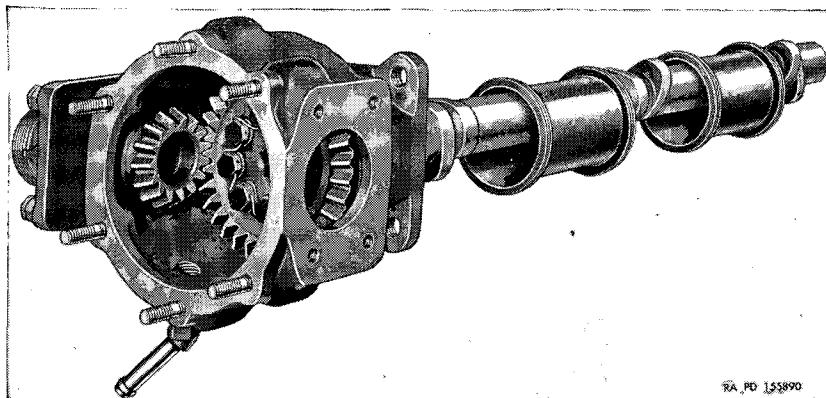

Figure 20. Camshaft and gear housing removed—from engine right (1-3-5) side.
d. Remove the two hex-head bolts (P, fig. 53) and (T, fig. 54) and tab washers holding the camshaft gear housings to the cylinders. Loosen the camshaft drive shaft housing nut (DD, fig. 53) and (WW, fig. 54) at the accessory case. Remove the camshaft, inter-cylinder connectors, and gear housing as a unit (figs. 20 and 21).